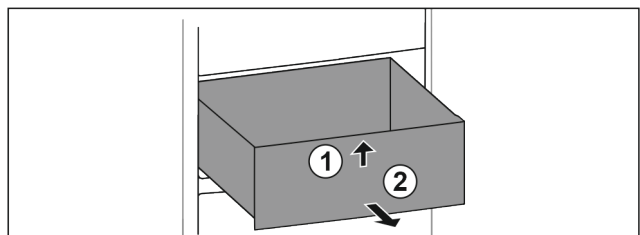

Fig. 56
▶ Lift up drawer at the front. Fig. 56 (1)
▶ Remove drawer to the front. Fig. 56 (2)